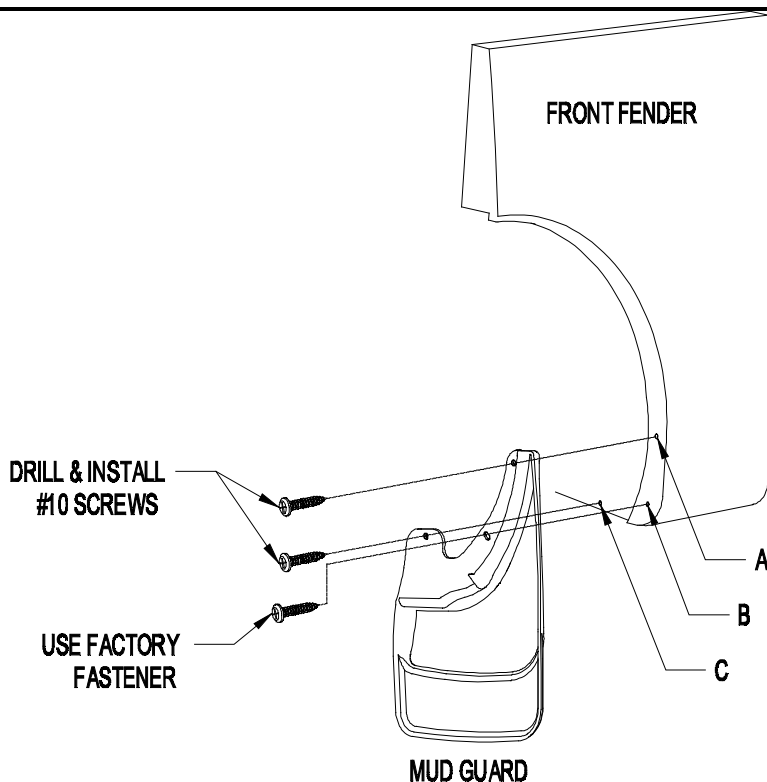

Figure 1
2. Remove existing factory fasteners from locations B (Figure 1).
4. Using mud guard as a template, mark, center punch, and drill 1/8" holes at locations A & C (Figure 1).